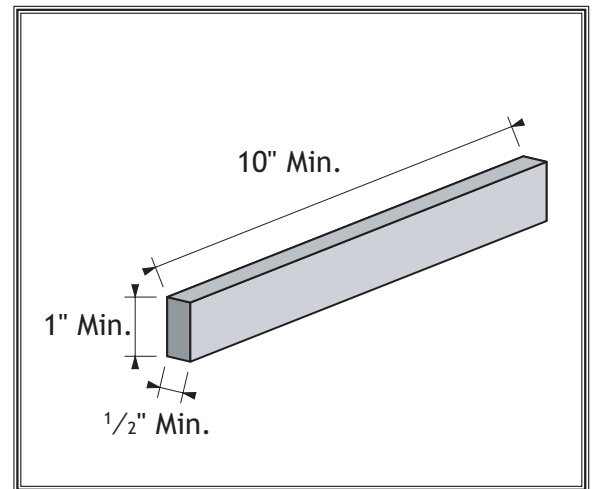

Figure 24. Minimum dimensions for edge jointing.
- **Make sure your workpiece exceeds the minimum dimension requirements (Figures 24 & 25) before edge jointing or surface planing, or it may break or kick back during the operation!**